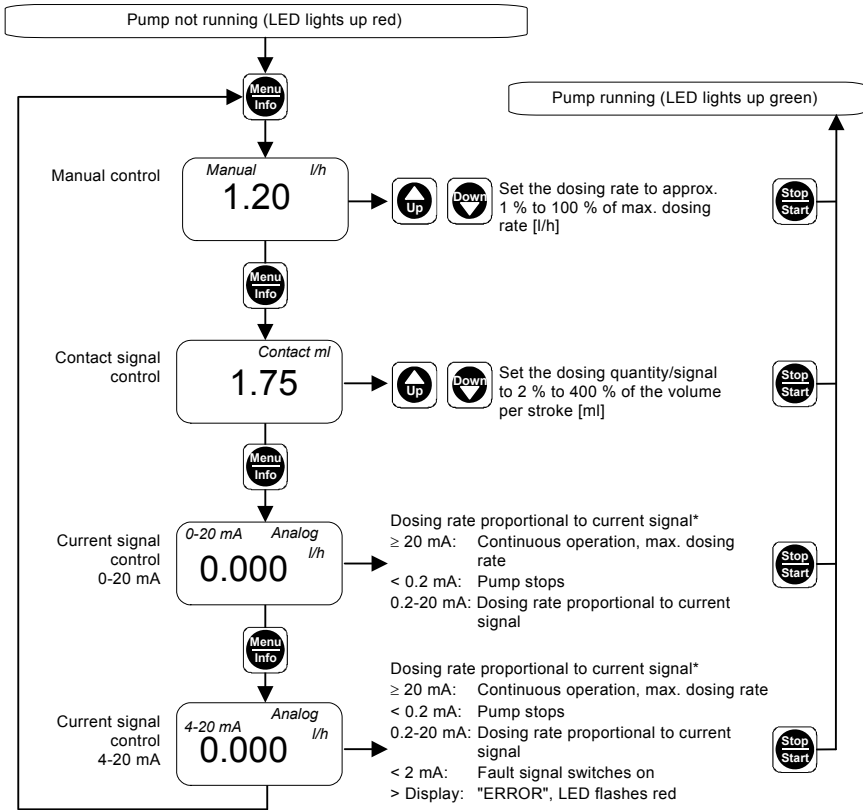

Fig. 38 First function level
- Use the "Up" and "Down" buttons to modify the settings in the relevant menu as shown in fig. 38.